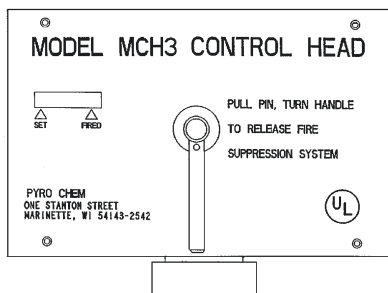

Figure 2-4. Mechanical Control Head.
The Model MCH3 mechanical control head is a fully mechanical control head which can be connected to the PCL-300/460/600 cylinder valve. This control head will support a fusible link detection system, a remote mechanical pull station (Model RPS-M), and a mechanical or electric gas shutoff valve. A miniature electric switch (Model MS-SPDT, MS-DPDT, MS-3PDT, or MS-4PDT) can be ordered separately and field installed. It is equipped with a local manual control handle that allows for mechanical system actuation. Operation of the local manual control requires removing the pull pin and rotating the handle clockwise. The Model MCH3 control head can actuate a maximum of three (3) cylinders. See **Figure 2-4**.